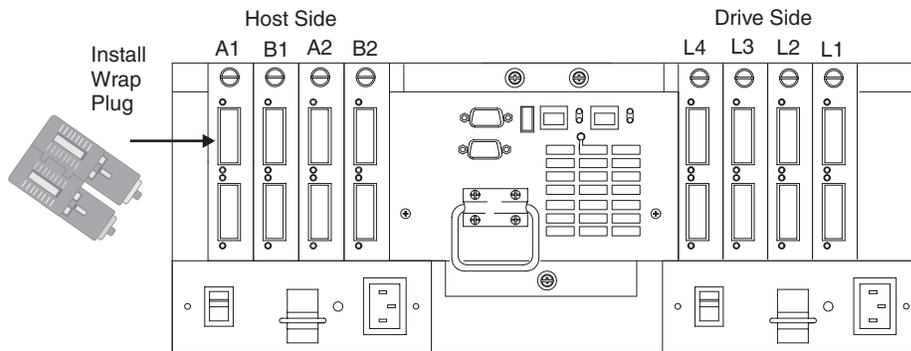

Figure 121. Install Wrap Plug to GBIC in Mini Hub on Controller A
- b. For a Type 3552 or 1742 controller, install a wrap plug to the GBIC in the mini hub on controller A. See Figure 121 on page 276.